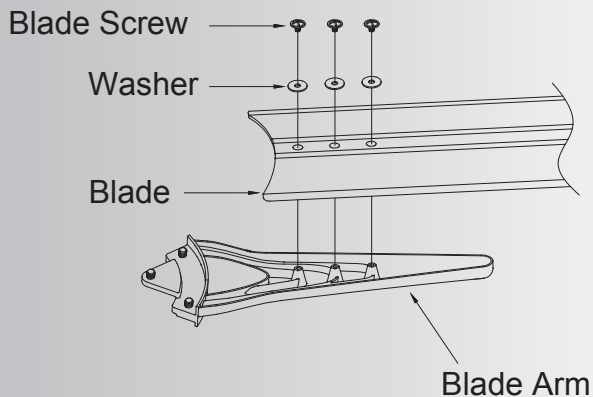

Fig. 17
Step 1. Position the blade over the blade arm with threaded posts showing. Make sure the bottom edge of the blade is fully seated against the blade arm. With a Philips screwdriver, start a screw into the blade arm (do not tighten) and repeat for the 2 remaining blade screws and washers. Tighten each screw securely starting with the center screw. Make sure the blade is straight. Repeat steps for the remaining blades. (Fig. 17)